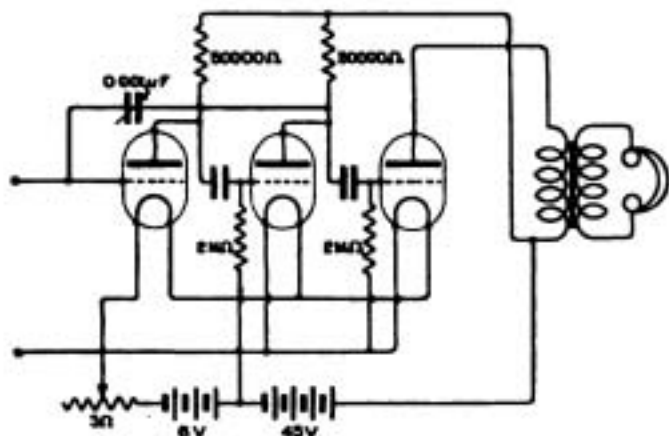

Fig. 12.
C.E.M. (Cowes).—(1) For a 3-valve amplifier as desired see the diagram Fig. 12.
(2) A 4-ft. frame, wound with 30 turns of No. 22 slightly spaced. Use with a loading coil in series, and a 0.001 mfd. condenser across the whole.